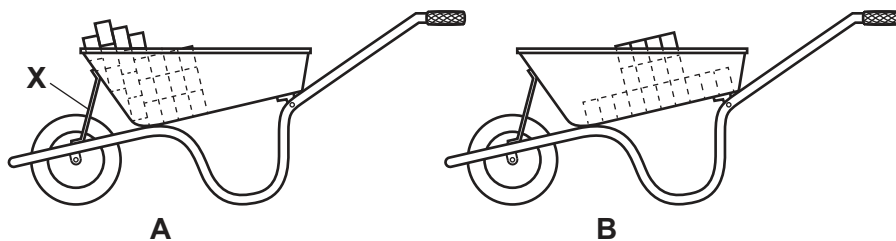

Fig. 10.2
- (b) Fig. 10.2 shows the same wheelbarrow loaded with bricks in two different ways.